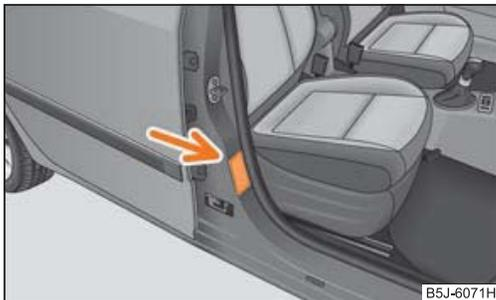

Fig. 123 Sticker on the centre column of the body on the front passenger side.
- This is also clearly stated on the sticker which is located on the centre column of the body on the front passenger side ⇒ **fig. 123**. The sticker is visible upon opening the front passenger door. For some countries, the sticker is also affixed to the sun visor of the front passenger.